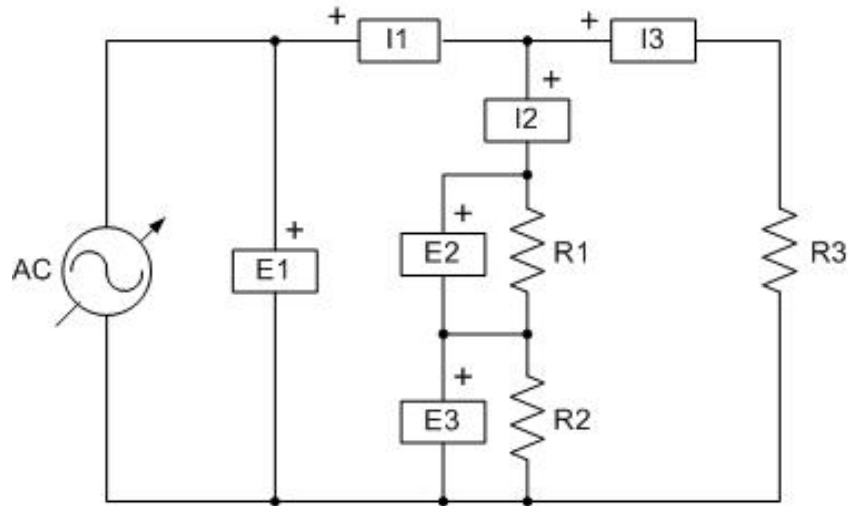

Figure 4. AC series-parallel circuit.
Figure 4 shows the AC series-parallel circuit to connect. This circuit consists of a single-phase, variable AC power supply connected to a resistive load. The resistor value of R1, R2, and R3 must be selected for the AC line voltage you are using, as indicated in Table 5. E1, E2, and E3, as well as I1, I2, and I3 correspond to the inputs of the Data Acquisition Interface module, Model 9062-XX.
1. Connect the circuit shown in Figure 4.